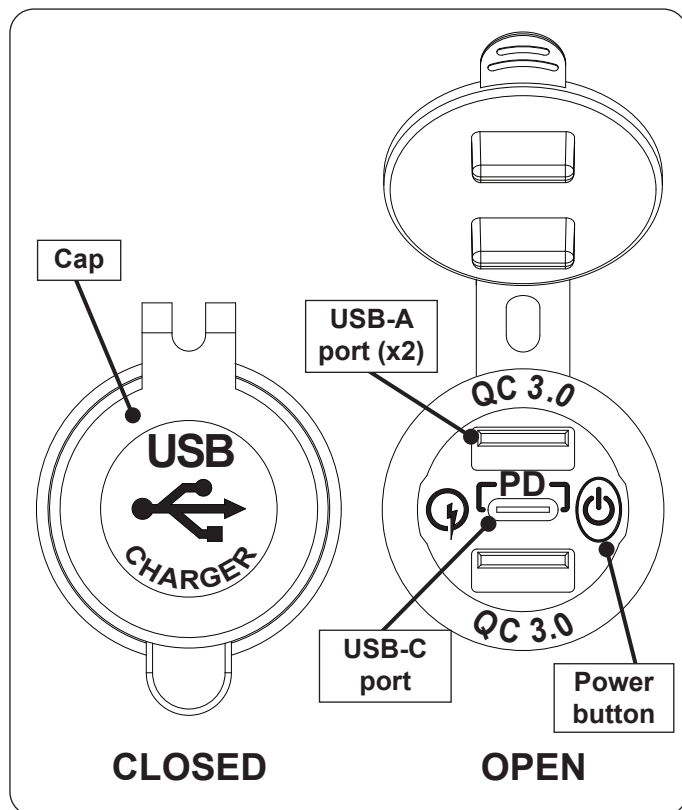

Fig. 43-1 USB outlet overview
Fyrestarter (H) models are equipped with a USB outlet for charging electronic devices. To use, see Fig. 43-1 and follow the steps below.
1. Locate the control panel on the side of the unit (refer to the IDENTIFICATION PARTS LIST if needed), and identify the USB outlet (see Fig. 43-1).